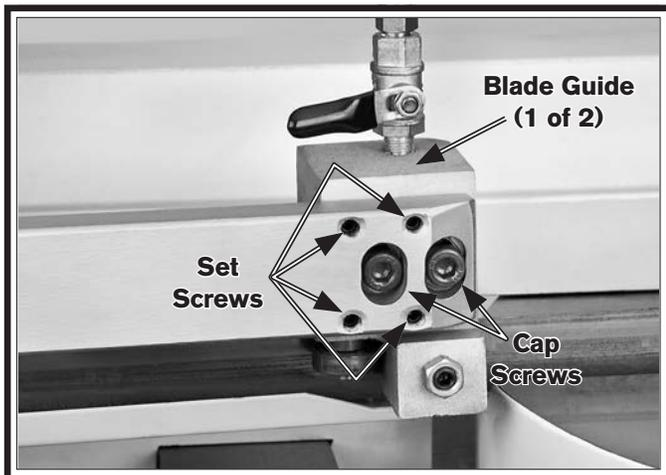

Figure 47. Blade guide adjustments.
A blade that is perpendicular to the table surface provides the best cutting results with minimal side loading and blade wear. The blade is held perpendicular to the table by the two blade guides. Each guide is held in place by two cap screws and aligned with the four set screws shown in **Figure 47**.
4. If the blade is not square to the table, loosen the cap screws shown in **Figure 47** one to two turns. Remove the blade brush assembly (refer to **Page 36**), then repeat for the second blade guide.
- If the top of the blade tilts away from the square, loosen the top two set screws shown in **Figure 47** and tighten the bottom two set screws an equal amount while keeping an eye on the blade squareness (the amount you tighten and loosen the screws depends on how far from square the blade is). Repeat for the second blade guide.
- If the bottom of the blade tilts away from the square, tighten the top two set screws shown in **Figure 47** an equal amount and loosen the bottom two set screws while keeping an eye on the blade squareness (the amount you tighten and loosen the screws depends on how far from square the blade is). Repeat for the second blade guide.